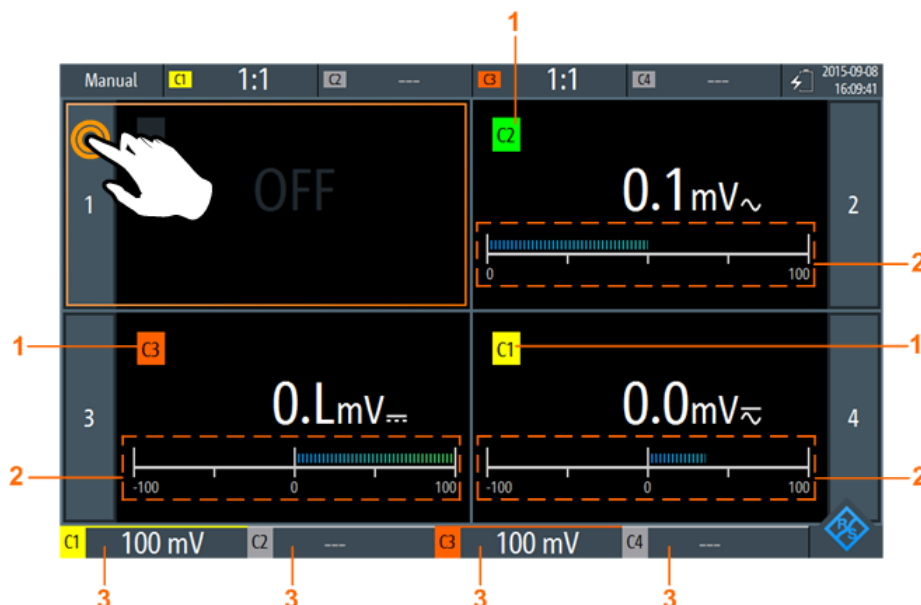

**Figure 7-5: Four-voltmeter-view**
- Tap the meter number as shown in Figure 7-5.